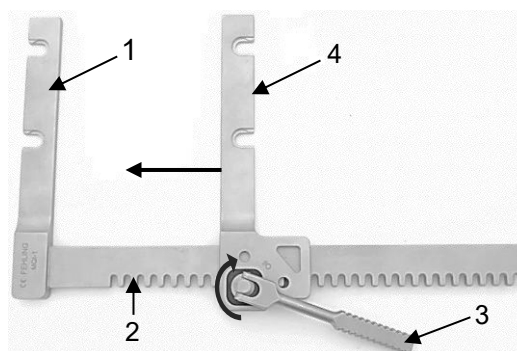

Fig. 9
Make sure that both retractor arms point in the same direction, as shown in Figure 9.
Turn the drive lever (3) clockwise to move the movable retractor arm (4) on the toothed rack (2) inwards towards the fixed retractor arm (1) (Fig. 9).